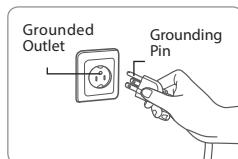

Figure 1
- When you are not sure about grounding or whether the product is properly grounded, consult with a qualified electrician or service technician.a grounding plug that looks like the plug illustrated in Figure 1.